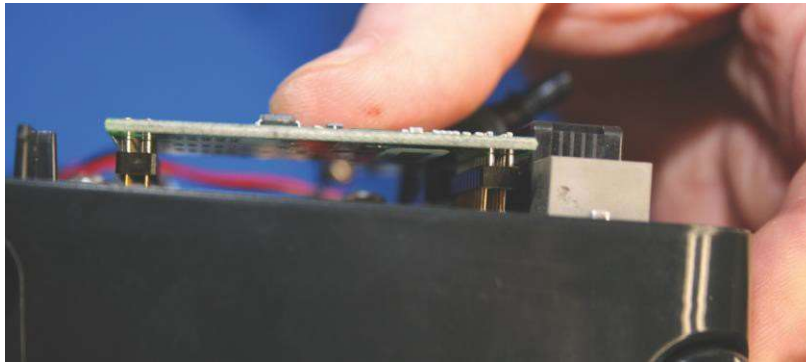

Figure 5.38
5. Gently press the board into place until properly seated. (Figure 5.38)